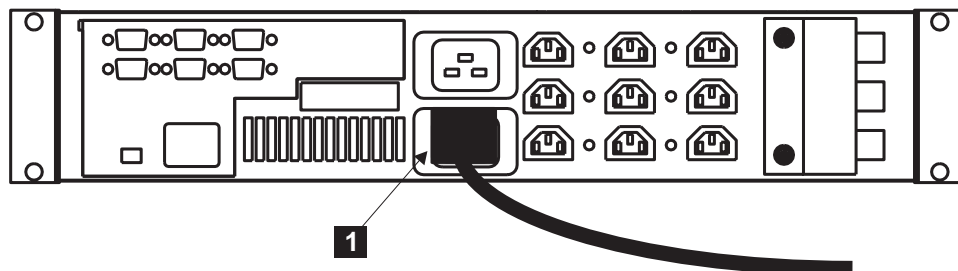

Figure 23. Installing the uninterruptible power supply power cable
10. At the back of the uninterruptible power supply, plug the uninterruptible power supply main power cable into the power socket **1** (see Figure 23).